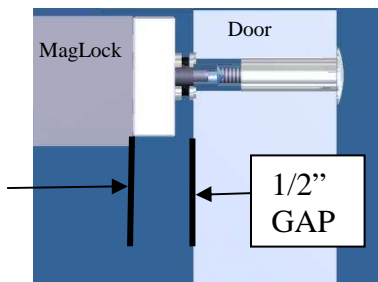

Figure 3
Step 2: Close the door and determine the proper mounting position for the maglock. The face of the magnetic lock must be positioned 1/2" behind the fully closed door as shown in figure 3. A template is included in the parts box. This template should be folded at the dotted line and placed against the closed door. The template will allow transfer of all drill centerpoints for the door armature plate and door jamb maglock mounting plate.